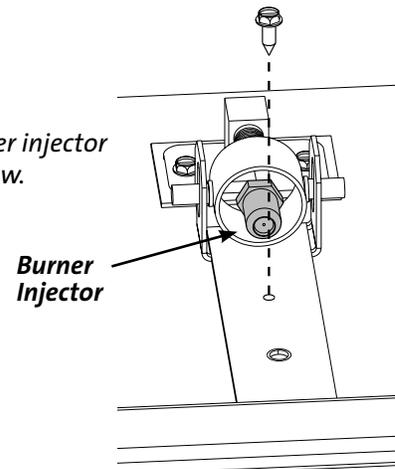

Figure 23. Burner injector and LP stop screw.
8. **Change the Burner Injector.** See fig. 23. Using a 1/2" open end wrench or deep-well socket remove the burner orifice from its brass elbow housing and replace with the appropriate orifice supplied in the kit.
- A) **Install the stop screw into the air shutter plate.** See fig. 23.
16. **Adjust the Air Shutter.** You will need to position the shutter to provide a gas/air mixture that will achieve the best flame picture with your particular installation. Start with the shutter stem at the half-way position in the slot in the bottom of the stove. See fig. 23. Pushing the stem back will restrict air, while pushing it forward will open the shutter and increase air. With some experimentation, you will find the shutter position that works best for your installation.